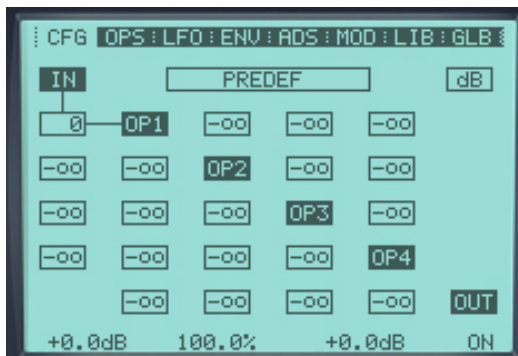

Fig. 4: By adjusting the value of the box above, the audio signal is routed between the input and Operator 1.
The first thing we want to do is to connect the input (IN) to Operator 1 (OP1). In order to do this, we need to find the box in which the horizontal and vertical planes between IN and OP1 intersect. That is the box directly below the IN box, and to the left of OP1. Click on this box and raise the value to 0dB. You will immediately notice a cable appear connecting box sources through the box you have adjusted, as shown in **Figure 4**.